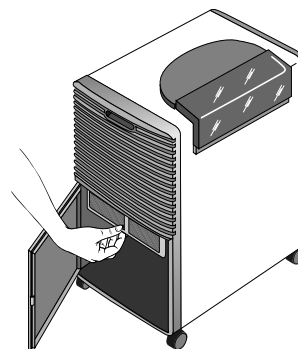

Fig. 5
- The filter has a comfortable access and it's extremely easy to remove and replace it without using any tools (Fig. 5).